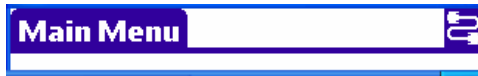

Figure 36 – Connection Button showing connected status.
- The Connection Button displayed with a dark graphic on a white background at the top right of the screen (see also Figure 36 and Figure 37).
When connected the Connection Button displays a white graphic on dark background on the right hand side of the Palm Handheld screen (Figure 36).